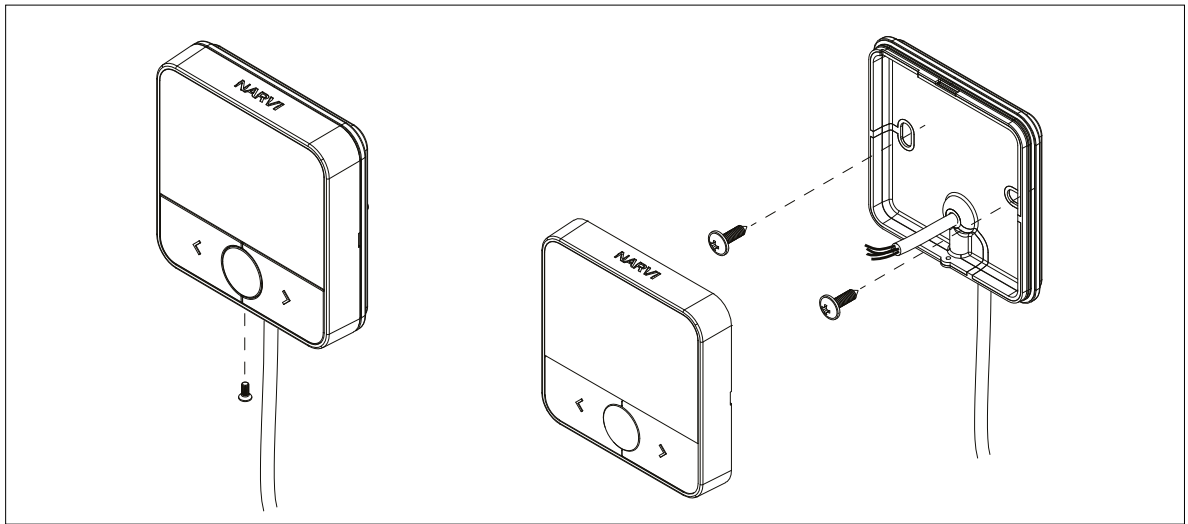

Figure 6.5-1 Installation of the control panel
- The back panel of the control unit is attached to the wooden surface of the wall with screws provided with the control unit (2 pcs $\text{Ø } 4.2 \times 13$). The screw is inserted through the oval-shaped soft part (Figure 6.5-1). Screws should not be over-tightened to avoid damaging the plastic of the control unit. For other surface materials or when attaching to a box, the fastening materials are selected according to the surface material and the method of attachment.